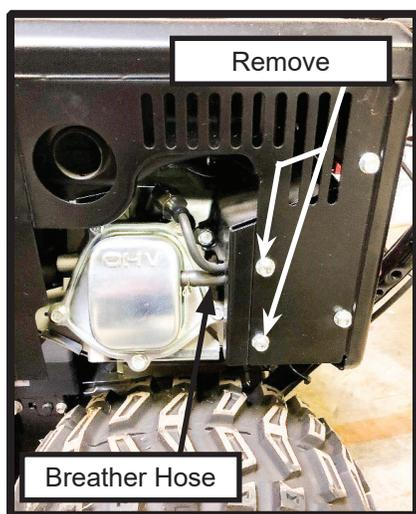

Figure 1
5. Remove two M6 Muffler Shield Screws and Retain. See Figure 1.